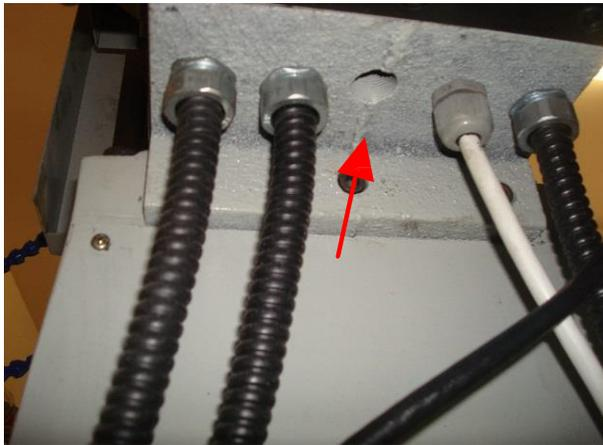
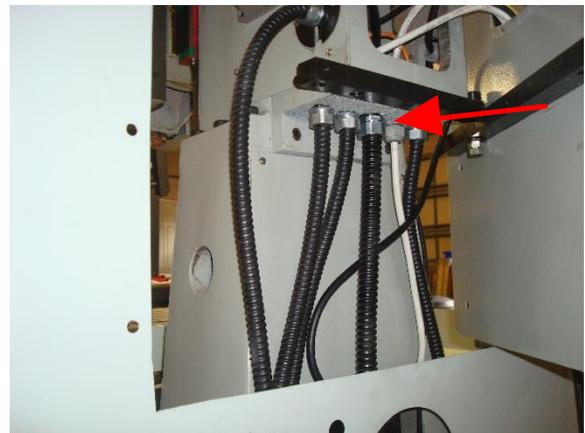

Figure 3-82
Figure 3-81
- 2) Install the cable with the white plug connector into the threaded hole (Figure 3-81 and Figure 3-82) located on the back of the machine frame casting. This hole is accessible after you swing the electrical control panel away from the back of the column. The end of the electrical cable with the white plastic plug end is inserted through the threaded hole.